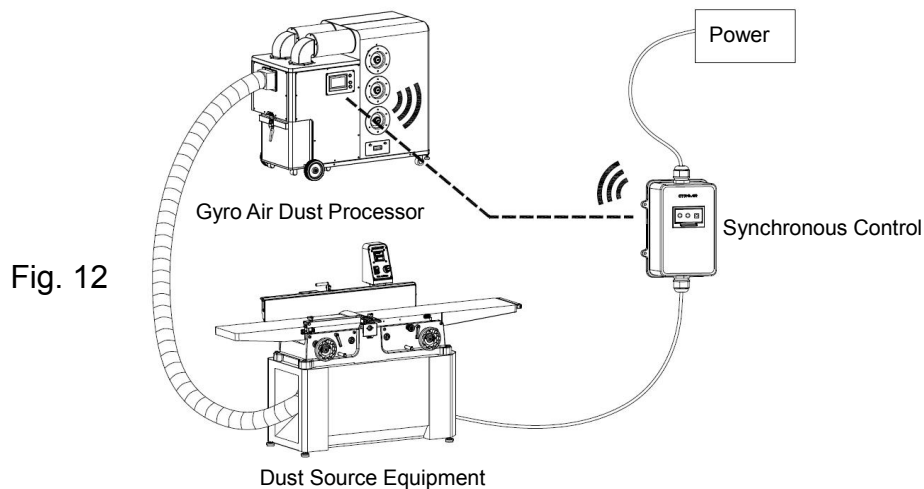

Fig. 12
5.3 Instructions for Synchronous Control (Fig.12)